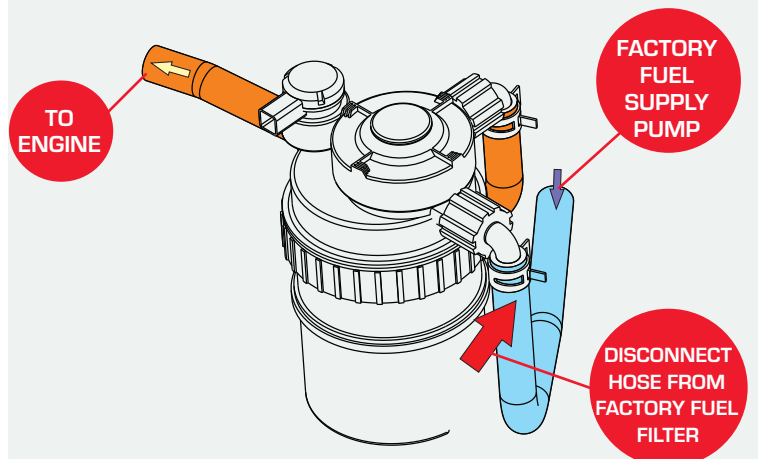

FIGURE 5
- 5 Grab the factory filter housing assembly and lift up to remove from the factory bracket. Locate the fuel inlet hose at the factory fuel filter. Loosen the factory fuel hose clamp and disconnect the fuel supply line coloured blue in Fig. 5 from the factory filter. Have a rag ready to capture any diesel that may spill out of the fuel line and the fuel filter.
- 7 Mount the Z980K16 fuel filter assembly onto the fuel filter bracket facing to the engine using the two (2) black M10 bolts and washers supplied with the Z980K16.
- 3 Connect the small end of Ryco PCV hose MH9816A (coloured blue in Fig. 5) to the engine PCV valve outlet using the supplied hose clamp MS4092. Connect the larger diameter end to the lower port of the RCC360. Secure with the supplied hose clamp MS4091.
- 4 Connect the small end of MH9816B to the air intake return port (coloured yellow in Fig. 5, page 7) and secure with a supplied hose clamp, then connect the large diameter end to the upper port of the RCC360 and secure with a supplied hose clamp MS4091.